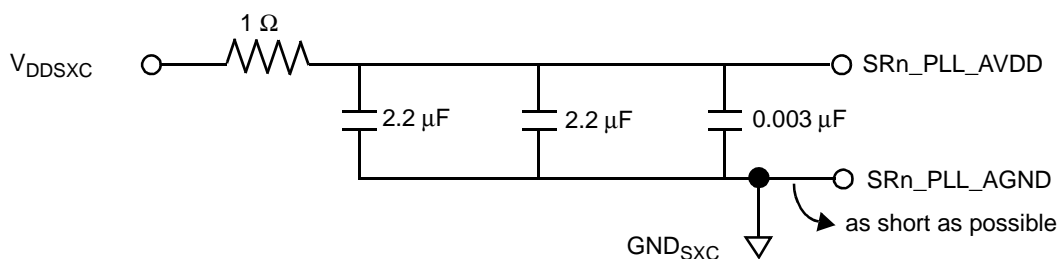

Figure 38. SerDes PLL Supplies
- Couple inputs SR1\_PLL\_AVDD and SR2\_PLL\_AVDD with SXCVDD1 and SXCVDD2 power rails, respectively, using an RC filter (see Figure 38).
Each SerDes PLL power supply must be filtered using a circuit similar to the one shown in Figure 38, to ensure stability of the internal clock. For maximum effectiveness, the filter circuit should be placed as closely as possible to the SRn\_PLL\_AVDD ball to ensure it filters out as much noise as possible. The ground connection should be near the SRn\_PLL\_AVDD ball. The  $0.003 \mu\text{F}$  capacitor is closest to the ball, followed by the two  $2.2 \mu\text{F}$  capacitors, and finally the  $1 \Omega$  resistor to the board supply plane. The capacitors are connected from SRn\_PLL\_AVDD to the ground plane. Use ceramic chip capacitors with the highest possible self-resonant frequency. All trances should be kept short, wide, and direct.